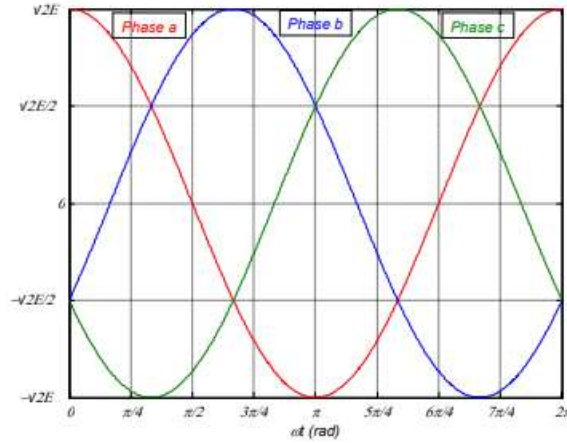

Fig. 2. The waveform of the generated three-phase voltage on the stator.
In normal steady state operation, the rotor is run by the prime mover at a constant mechanical speed ω_s . (synchronous speed). The rotor field induces sinusoidal voltages to the phase windings given by (1) and shown in fig. 2.